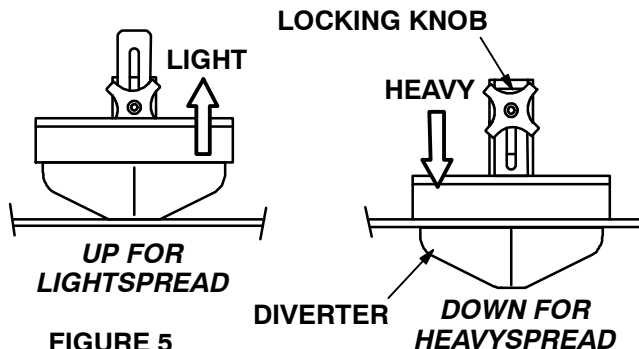

FIGURE 5
SETTING CONTROLS FOR LIGHTSPREAD OR HEAVYSPREAD OPERATIONS (See Figures 5, 6 and 7)
③ Setting HEAVYSPREAD Diverter (See Figure 5 & 6)